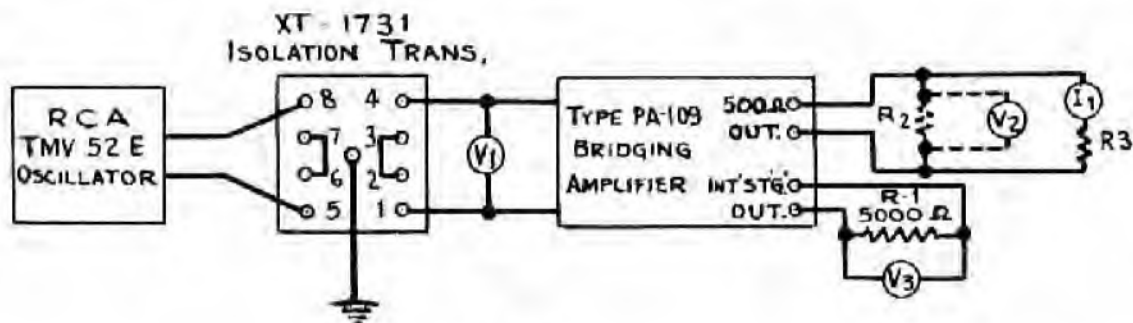

FIGURE 1
A. CONNECTIONS - Connect a calibrated source of audio frequency signal to the amplifier input terminals as indicated in Figure 1. An RCA TMV52E beat frequency oscillator is very desirable for this work.